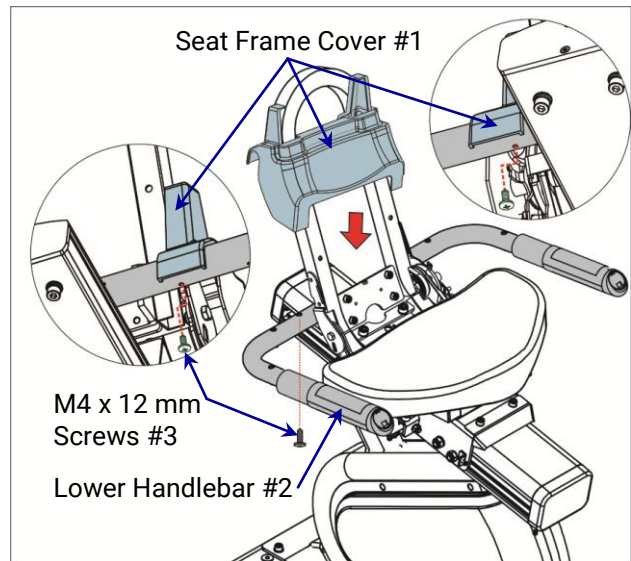

Fig 2.5-13
Attach the **Seat Frame Cover #1** to the **Lower Handlebar #2** using (2) **M4 x 12 mm Screws #3** with the provided 5mm Allen Wrench. (Fig 2.5-13)